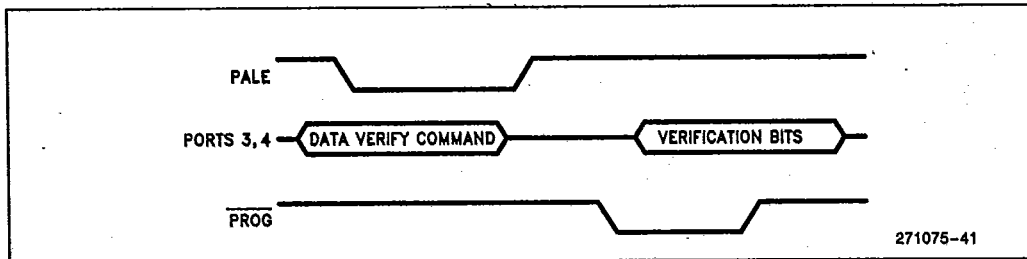

Figure 24. Data Verify Command Signals
**DATA VERIFY COMMAND**—When the Data Verify Command is sent, the slaves respond by driving one bit of Port 3 or 4 to indicate correct or incorrect verification of the previous Data Program. A 1 indicates correct verification, while a 0 indicates incorrect verification. The SID (Slave ID Number) of each slave determines which bit of the command/data path is driven. PROG from the programmer governs when the slaves drive the bus. Figure 24 shows the relationship of Ports 3 and 4 to PALE and PROG.
**WORD DUMP COMMAND** — When the Word Dump Command is issued, the M8797BH being programmed adds 2000H to the address field of the command and places the value found at the new address on Ports 3 and 4. For example, sending the command #0100H to a slave will result in the slave placing the word found at location 2100H on Ports 3 and 4. PROG from the programmer governs when the slave drives the bus. The signals are the same as shown in Figure 24.